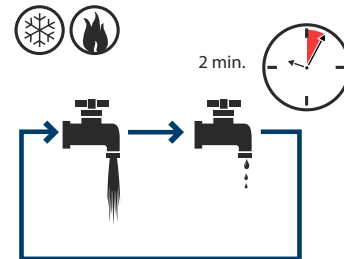

Fig. 28 Operating hot- and cold-water taps
4. Operate maximum hot and cold flows for at least two minutes to flush out all debris. See fig. 28.